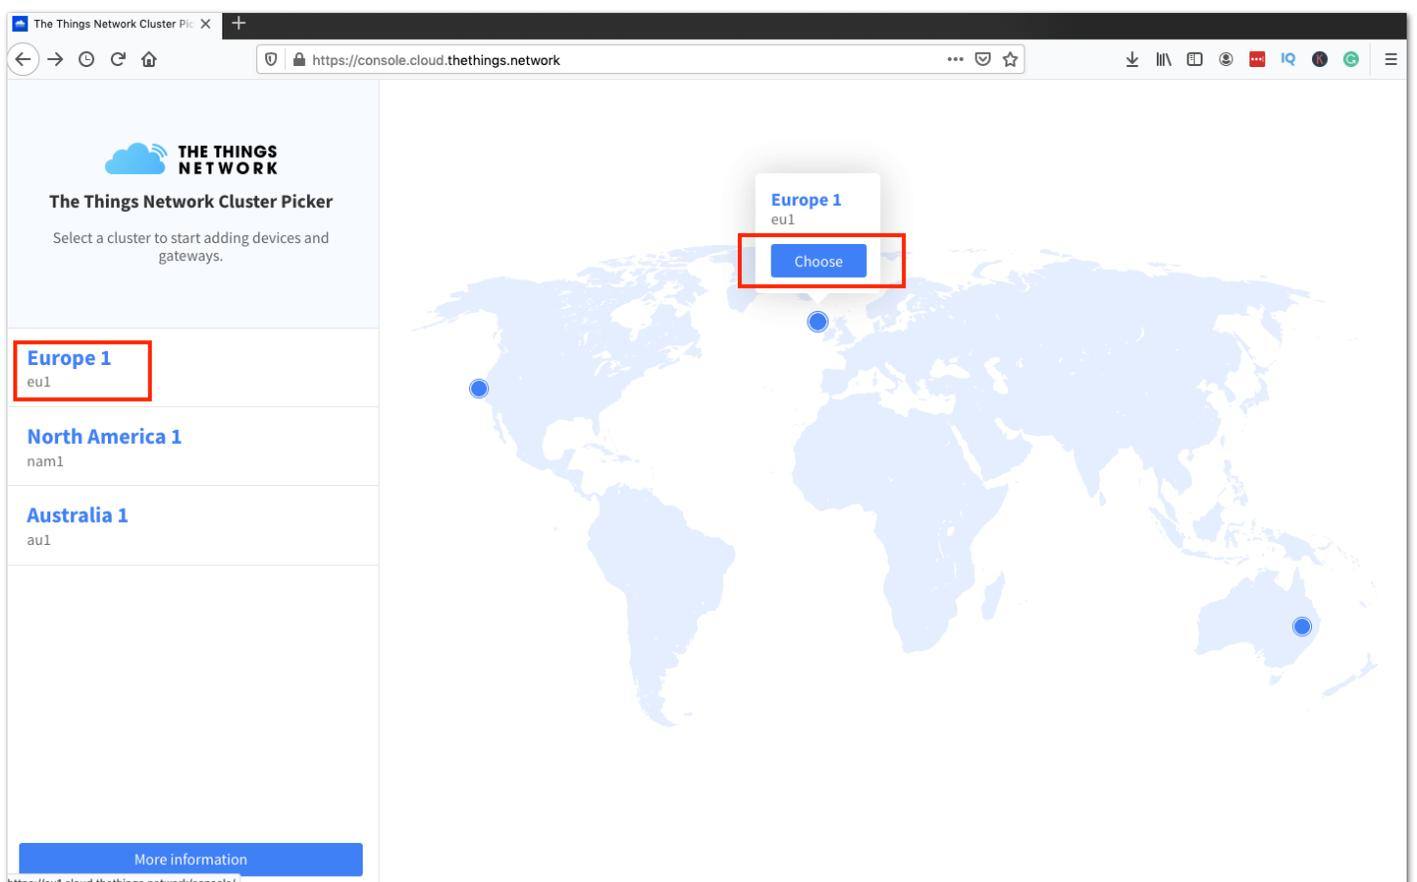

Figure 39: Selecting cluster in TTN V3
1. Go to The Things Network platform and select a cluster, as shown in **Figure 39**.